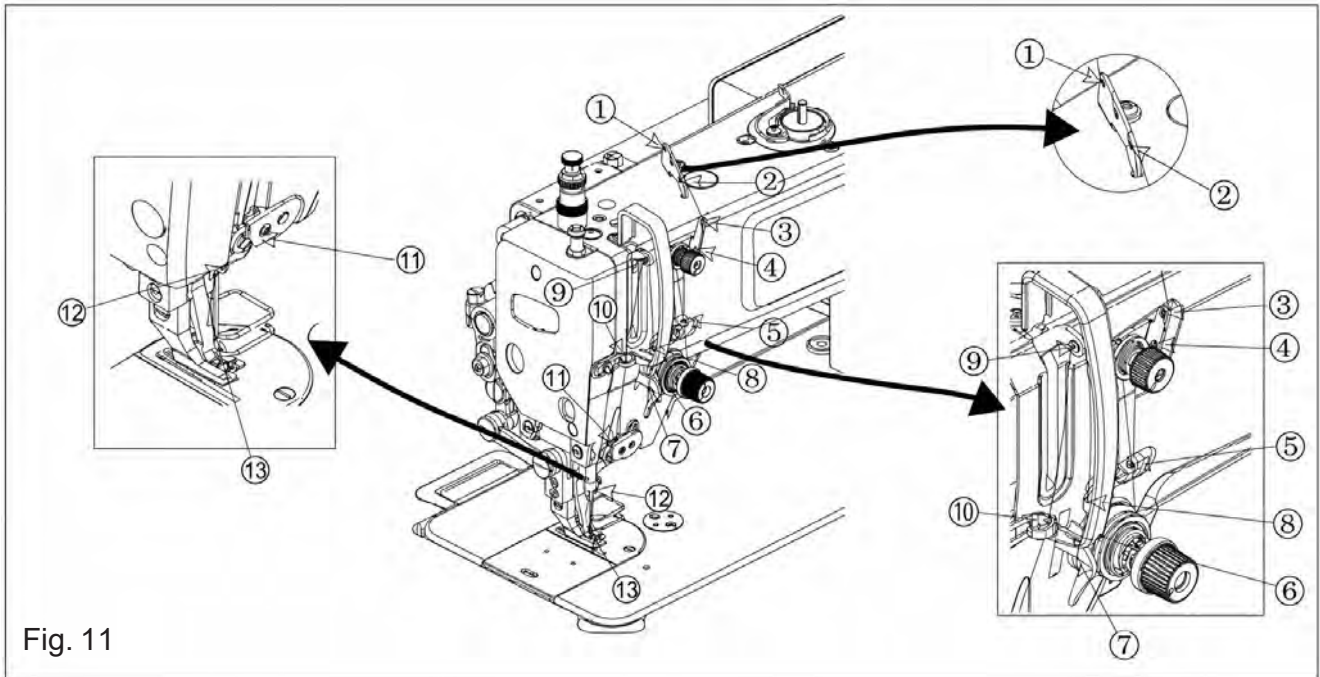

Fig. 11
8. Threading the Needle Thread (Fig.11)